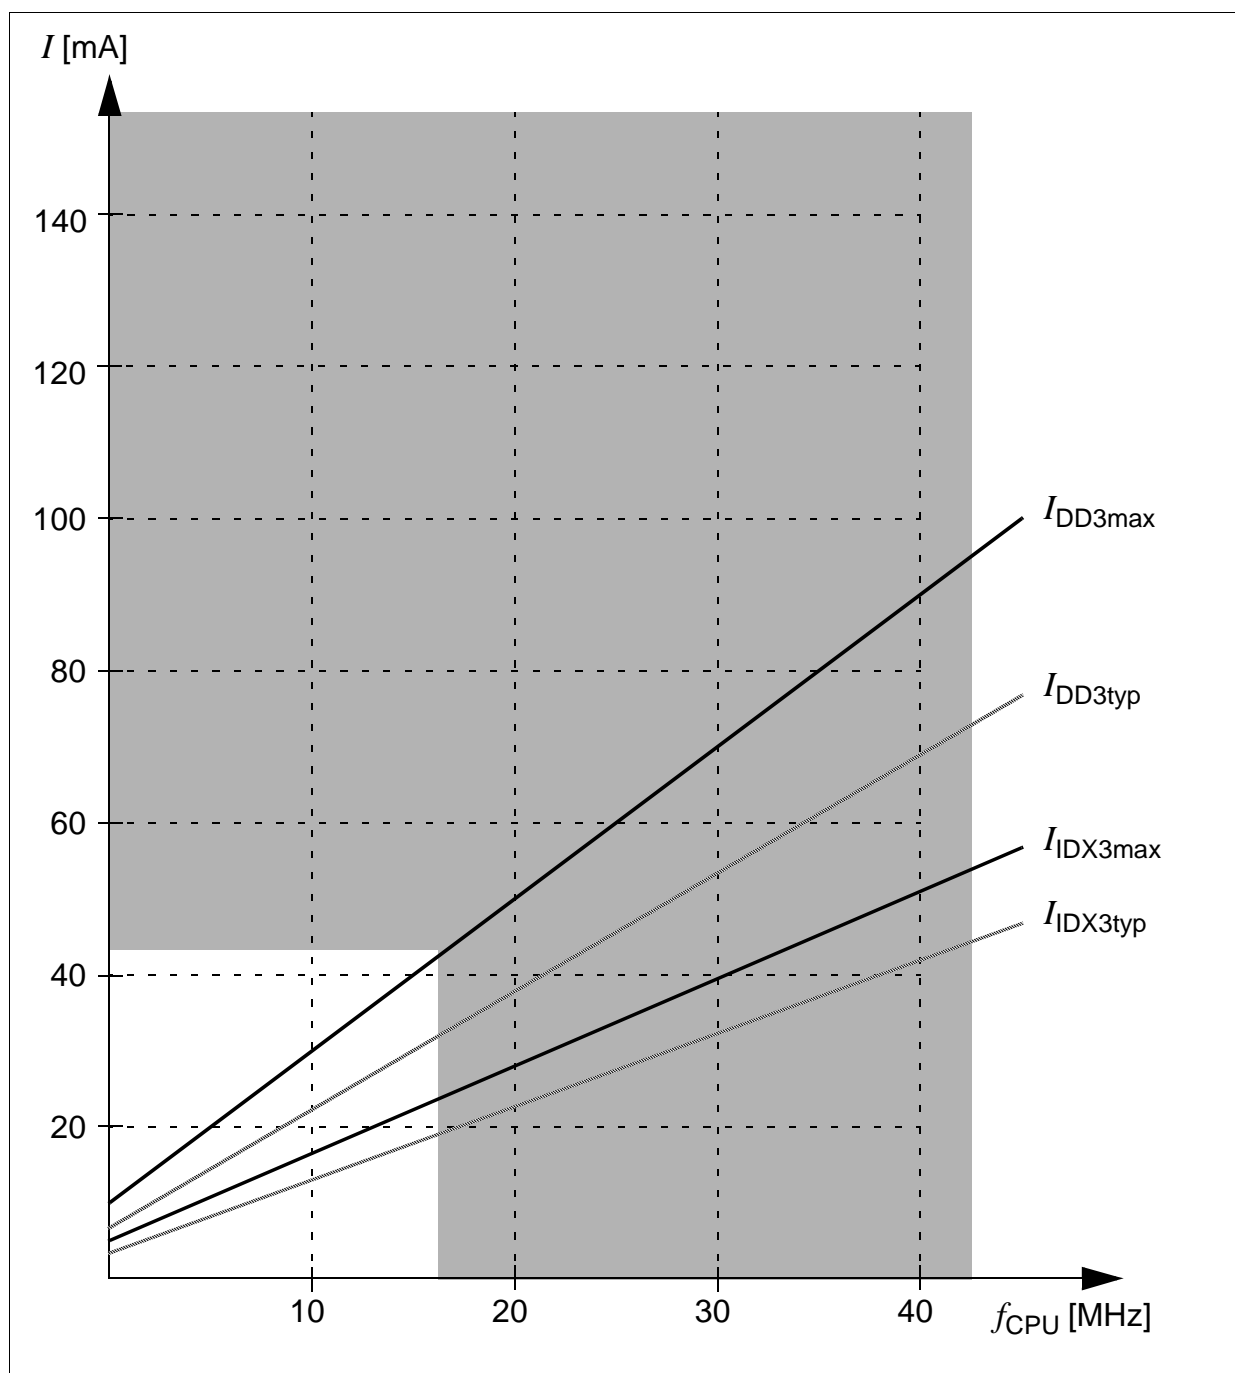

Figure 10 Supply/Idle Current as a Function of Operating Frequency
1) The supply current is a function of the operating frequency. This dependency is illustrated in Figure 10. These parameters are tested at V_{DDmax} and maximum CPU clock with all outputs disconnected and all inputs at V_{IL} or V_{IH} .